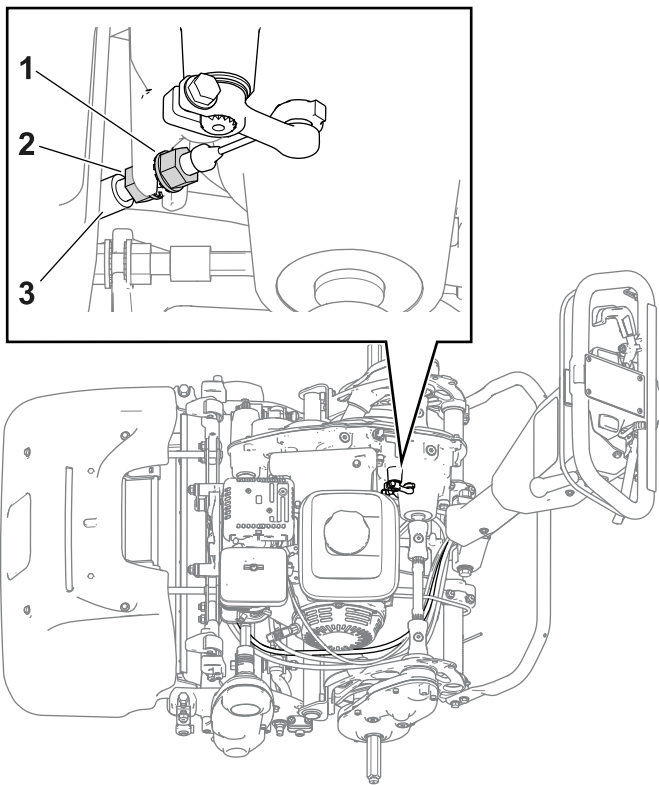

Figure 33
- To increase the cable tension, loosen the front-cable jam nut and tighten the rear jam nut (Figure 33). Repeat step 2 and adjust the tension if necessary.
- To decrease the cable tension, loosen the rear jam nut and tighten the front-cable jam nut (Figure 33). Repeat step 2 and adjust the tension if necessary.